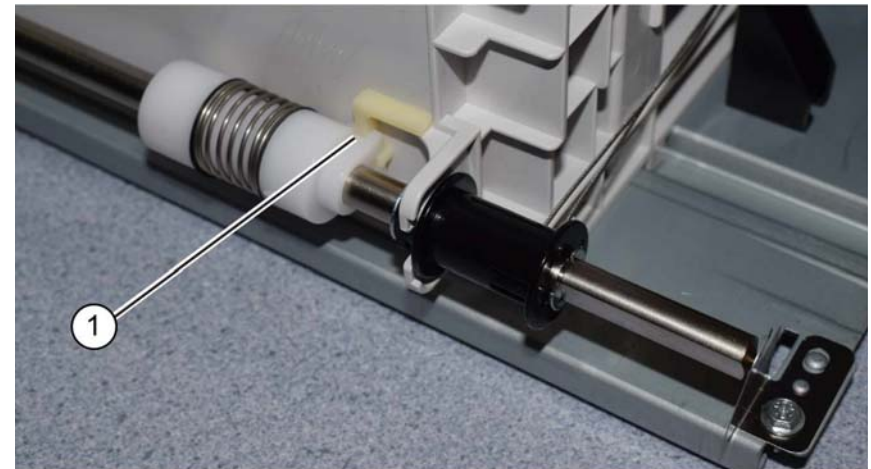

Figure 6 Brake
3. Ensure the brake (1) is correctly positioned against the tray frame, Figure 6.